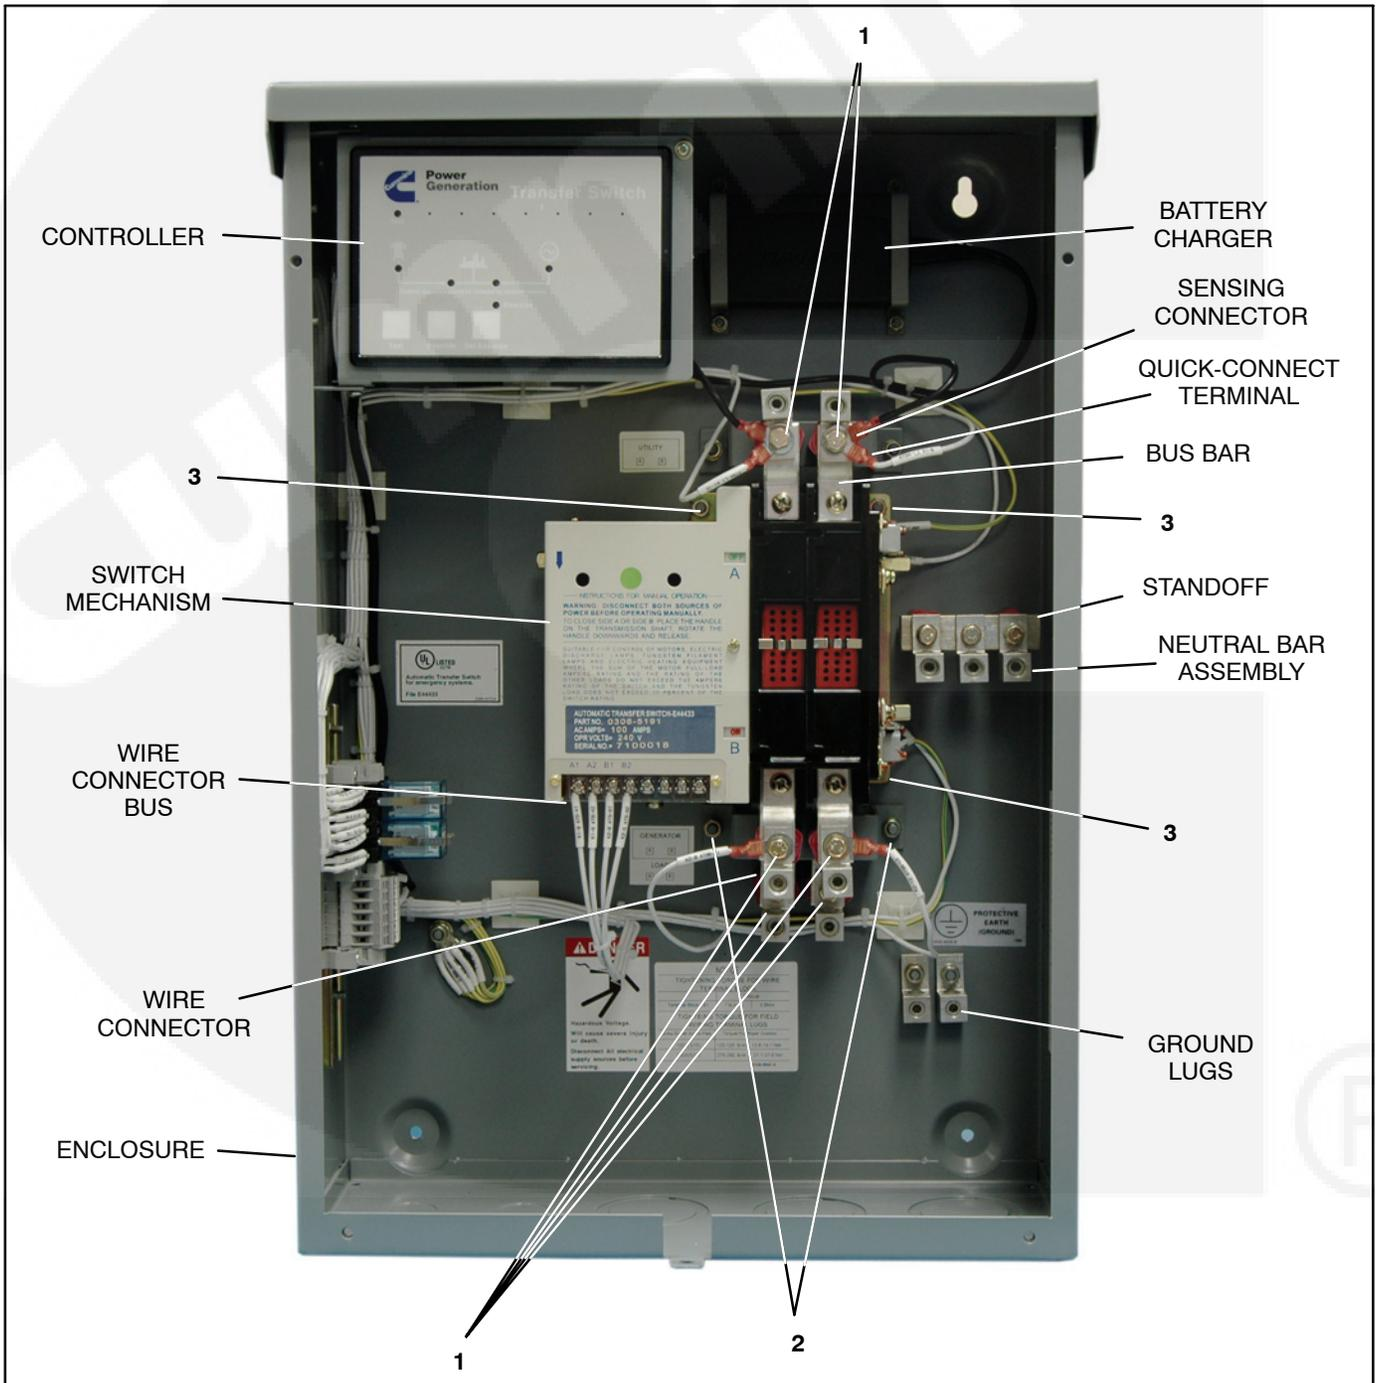

FIGURE 4-1. INTERIOR COMPONENTS FOR TRANSFER SWITCH WITH CONTROLLER
4. Loosen the six 1/4-20 bolts (item 1 in Figure 4-1 or 4-2) securing the mechanical lugs.
5. For transfer switches with a controller or with one circuit breaker, loosen and remove the two screws, nuts, and washers (items 2 in Figure 4-1 or 4-2) securing the bracket at the load and emergency side (bottom) of the switch.
6. Loosen and remove all M6 nuts and lock washers (item 3 in Figure 4-1 or 4-2) securing the switch to the rear wall of the cabinet.
7. Use the hardware remove in step 5 to secure the mounting brackets and new charger to the inside of the transfer switch cabinet (see Figure 4-1).